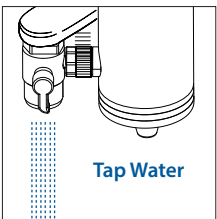

Figure 1.3
1. Switch the lever to the downward direction to get tap water. [Figure 1.3]